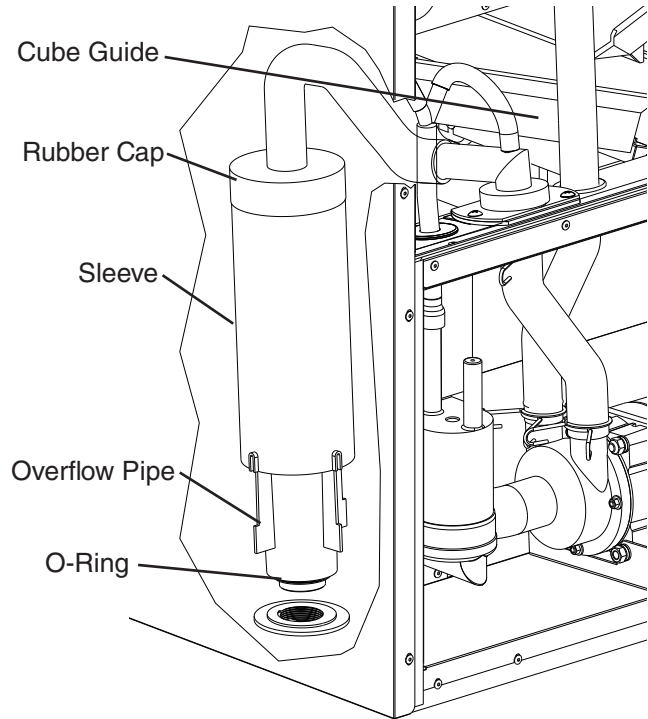

Fig. 8
- 3) Drain the water tank. Remove the front insulation panel, then slide the cube guide to the right. Remove the rubber cap and sleeve covering the overflow pipe. See Fig. 8. Unscrew the overflow pipe. After the water tank has drained, reconnect the overflow pipe. Replace the rubber cap, sleeve, cube guide, and front insulation panel in their correct positions. **NOTICE!** Make sure the O-ring is attached to the bottom of the overflow pipe and be careful not to cross thread the overflow pipe.